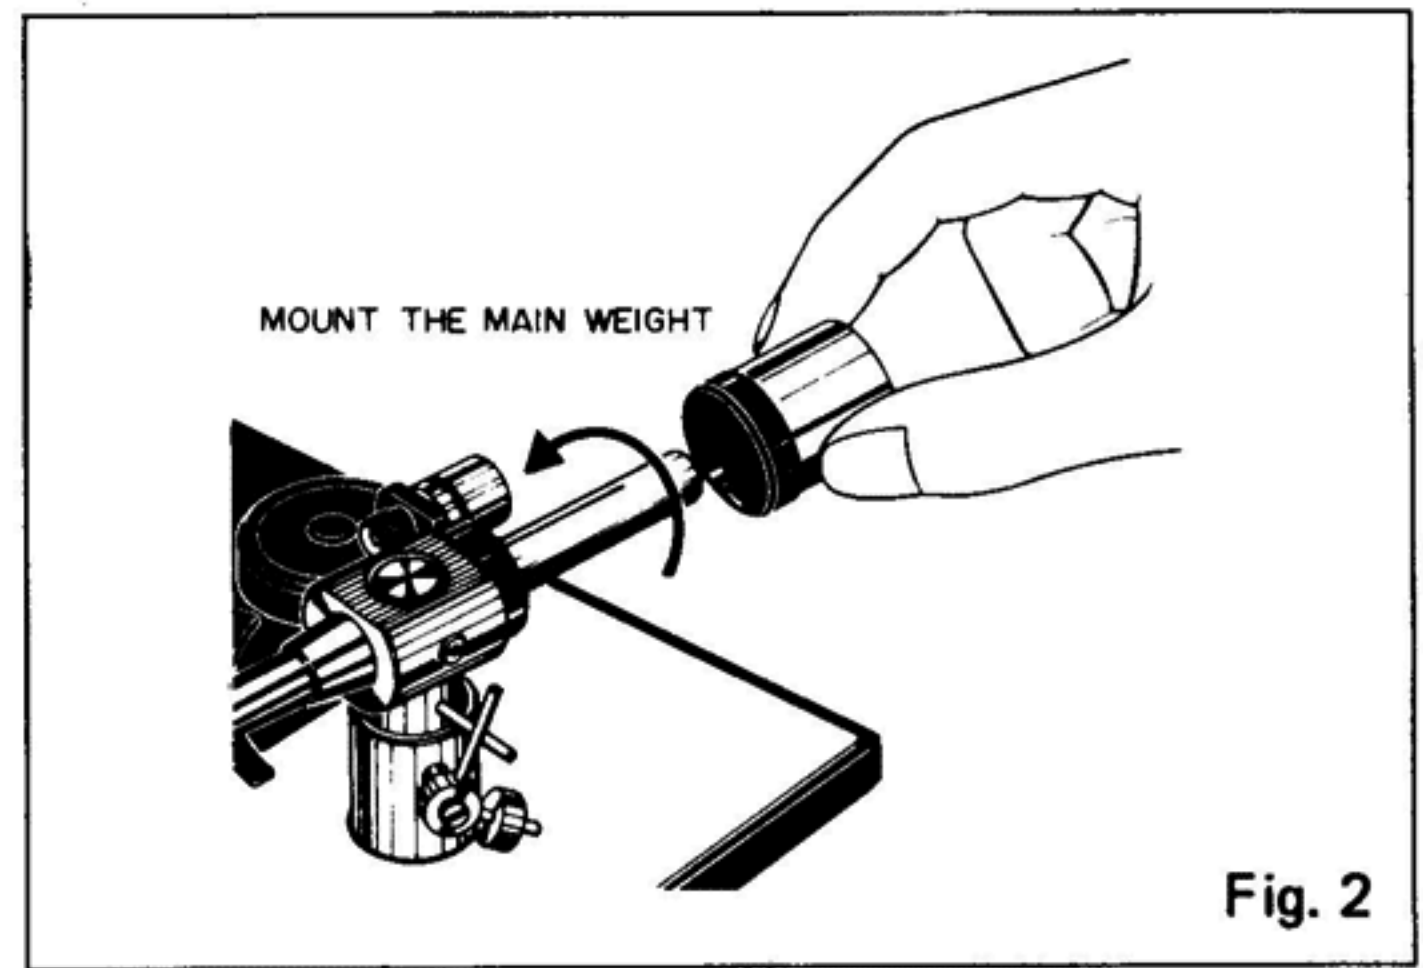

Fig. 2
3. Mount the main weight as shown in Fig. 2.